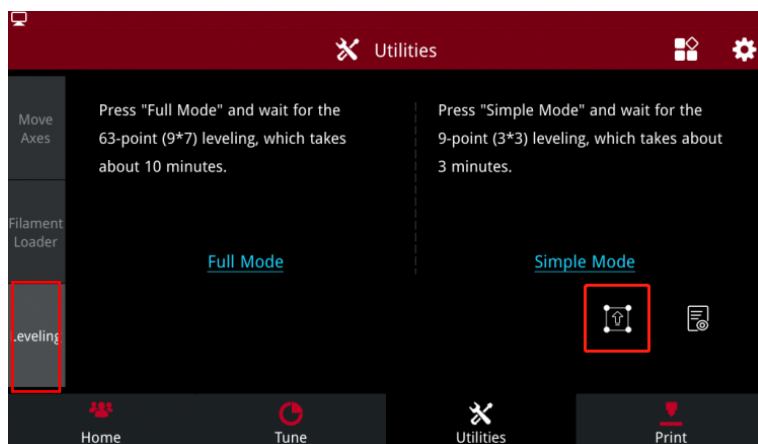

Figure 9: Auto-leveling.
4. Enter the “Utilities” tab on RaiseTouch. Then turn off the auto-leveling (refer to **Figure 9**). Then run the test GCode file.